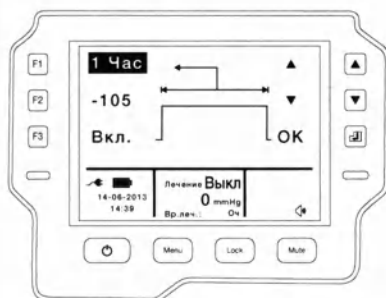

Fig. 17.
1. Press F3 on the front panel of the device to choose <Continuous>, and enter continuous therapy mode settings (Fig. 17).